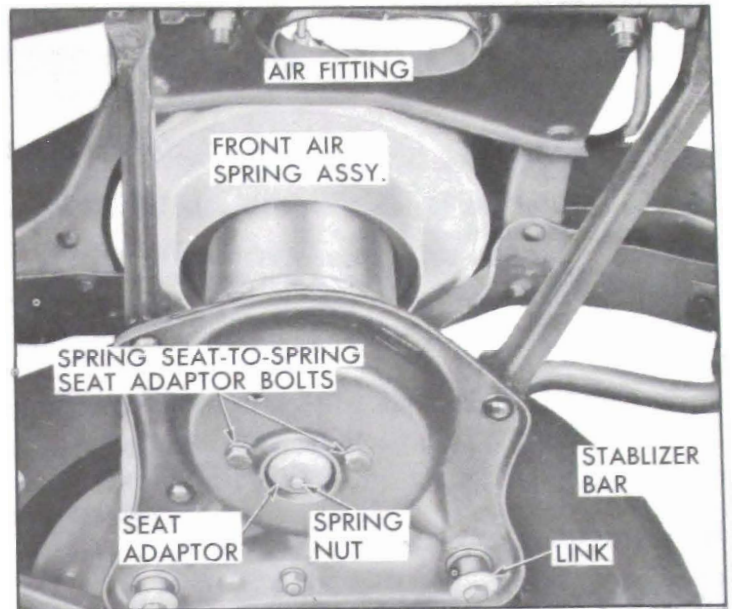

Figure 7-40—Front Air Spring Assembly
- (e) Remove spring nut at bottom of pilot bearing on air spring to be removed. See Figure 7-40.
- (i) Disconnect stabilizer bar link at lower control arm. See Figure 7-40.